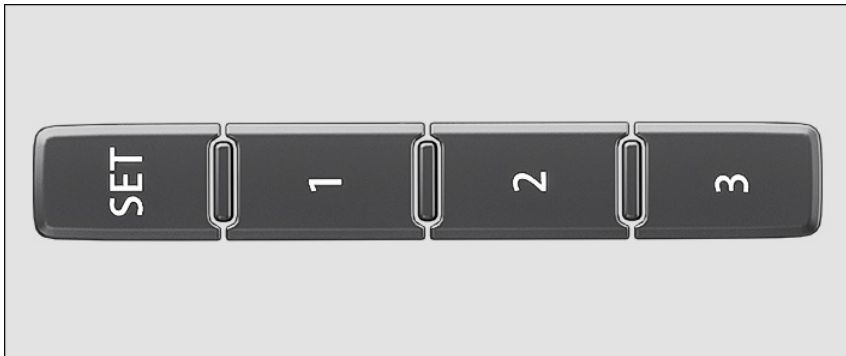

Fig. 92 On the outer side of the driver's seat: memory buttons.
5. Press the **SET** *fig. 92* button for longer than ten seconds.
4. Press the desired memory button *fig. 92*.